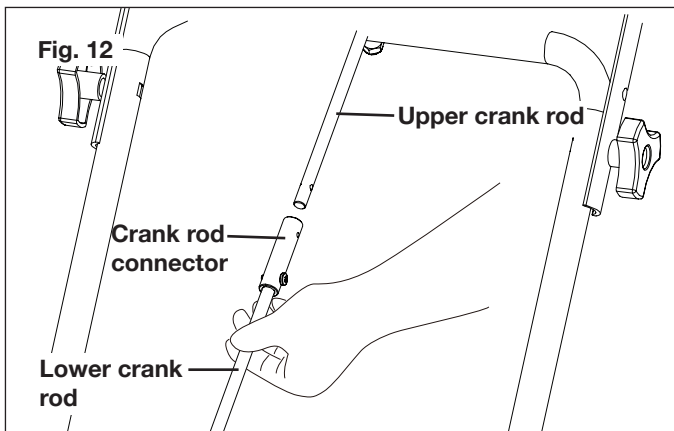

Fig. 12
- Slide the upper crank rod into the top of the crank rod connector (Fig. 12).